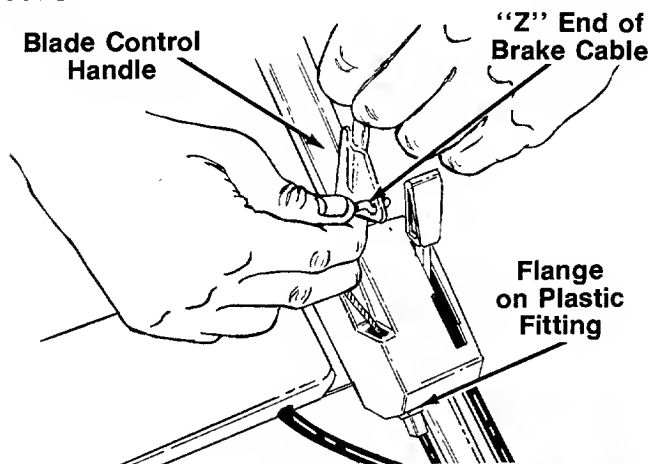

FIGURE 4.
3. Hook the "Z" end of the brake cable into the hole in the blade control handle from the inside to the outside as shown in figure 4.